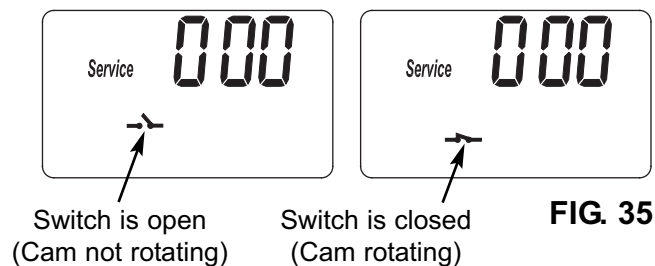

FIG. 35
3. Symbols in the display indicate POSITION switch operation (See Figure 35).